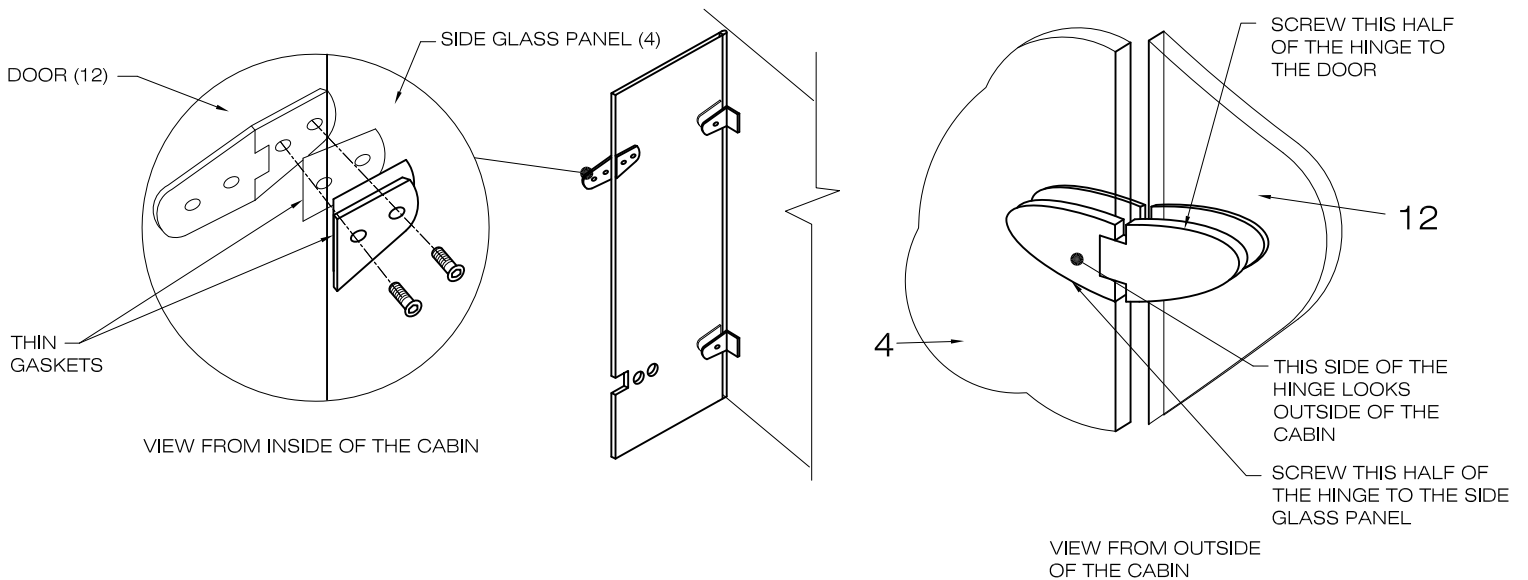

FIG. 6
2. Position hinges on the side glass panel. [SEE FIG.6]